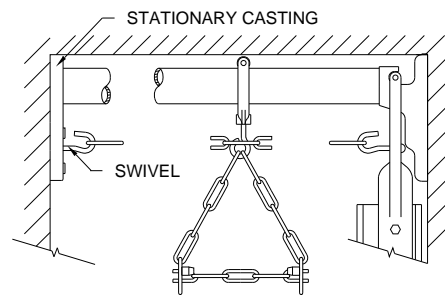

Fig. 4-2
3. Attach the pipe to the closing and stationary castings with the swivels attached. Mount the stationary casting to the jamb, (Fig. 4-2)